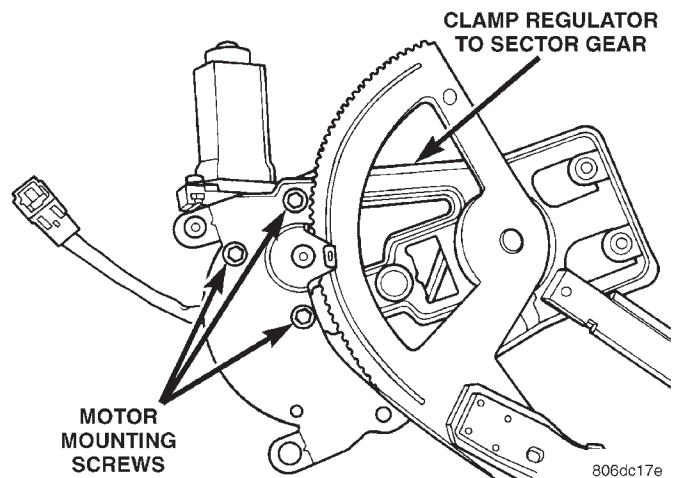

Fig. 3 Motor Removal
- (3) Disconnect wiring connector from motor.
- (4) Secure the sector gear and mounting plate with a C clamp or similar clamping tool. This will prevent a sudden and forceful movement of the regulator when the motor is removed.
- (5) Remove three mounting screws that hold motor gearbox to regulator (Fig. 3).
- (6) Remove motor from regulator.